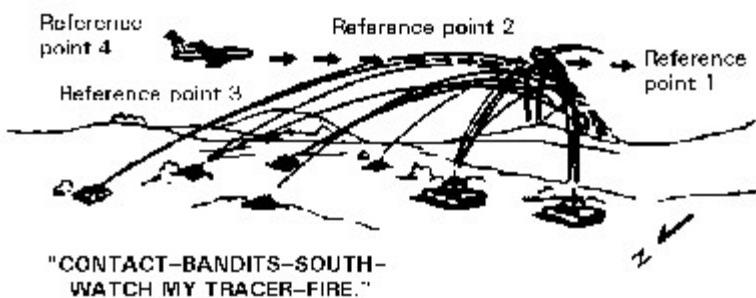

Figure 3-18. Machine gun aim points.
Step 1. The platoon initiates fire. The primary intent is to force aircraft to take self-defense measures that alter their attack profile and reduce their effectiveness. The platoon leader may use a burst of tracers to designate an aim point for platoon machine gun antiaircraft fires (see Figure 3-18). Volume is the key to effectiveness of these fires; tanks throw up a "wall of steel" through which aircraft must fly. The main gun is effective against hovering attack helicopters. The platoon leader may also direct some vehicles to engage high-performance aircraft with MPAT main gun rounds.